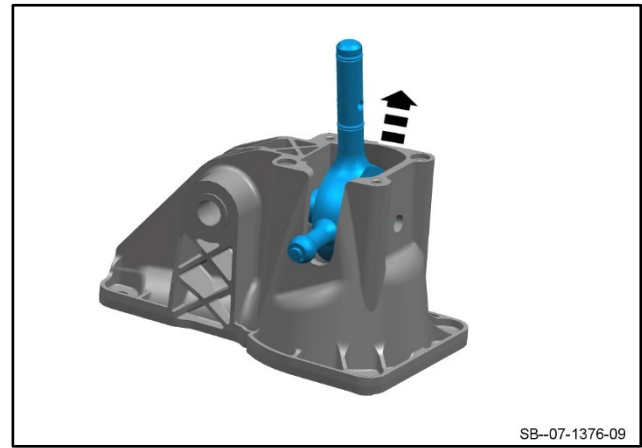

Figure 8
9. Remove and discard the gear selector lever (refer to Figure 8).